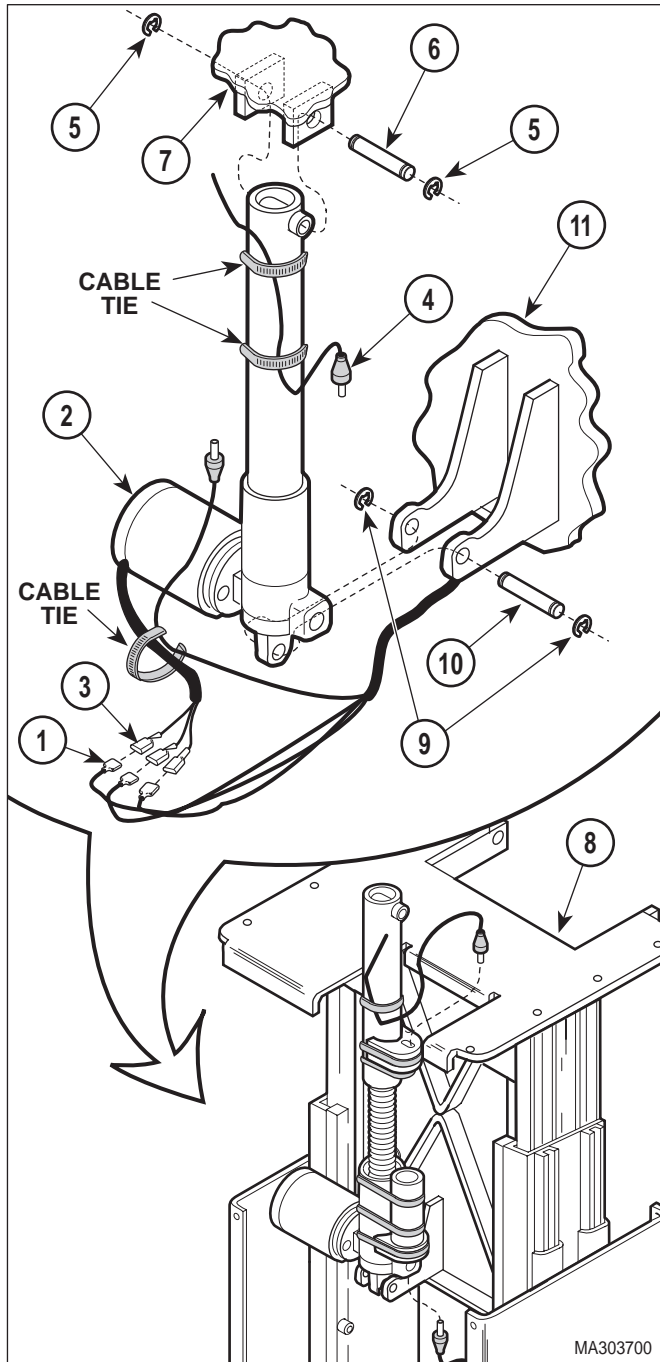

Figure 4-16 Tilt Actuator Removal / Installation
- (1) Remove tilt actuator transmitter and receiver (Refer to para 4.15).
- (2) Cut cable ties securing three wires (1, Figure 4-16) to tilt actuator (2).
- (3) Tag and disconnect three wires (1) from three actuator wires (3).
- (4) Cut two cable ties securing transmitter cable (4) to shaft of tilt actuator (2).
- (5) While supporting foot end of table top, remove two e-rings (5) and clevis pin (6) securing shaft of tilt actuator (2) to bracket (7).
- (6) Lower tilt actuator (2) down out of way; then lower foot end of table top downward until it is resting on inner member weldment (8).